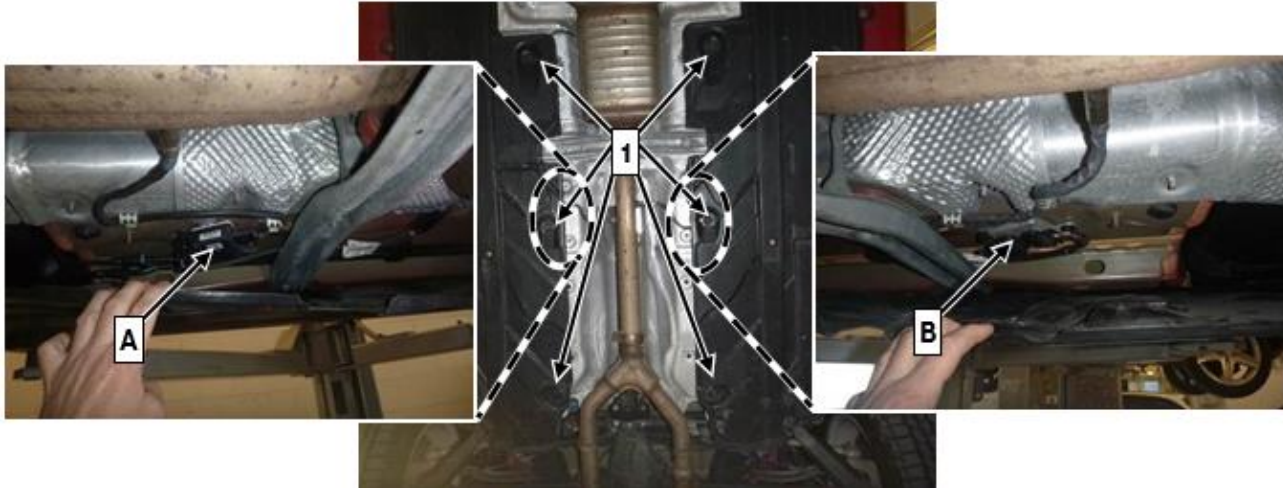

Figure 5
Only loosen the rear underbody panelling (**right and left**) (**Figure 5**).
- i** Loosen inner plastic nuts (**1, Figure 5**) to do this.
7. Release the NOx sensor (**A, Figure 5**) and particulate sensor (**B, Figure 5**) control units downstream of the SCR on the underbody (**AR14.40-P-2038CD**). The NOx sensor and particulate sensor control units will be replaced.
- i** To do so, push the underfloor paneling downward slightly (**Figure 5**).